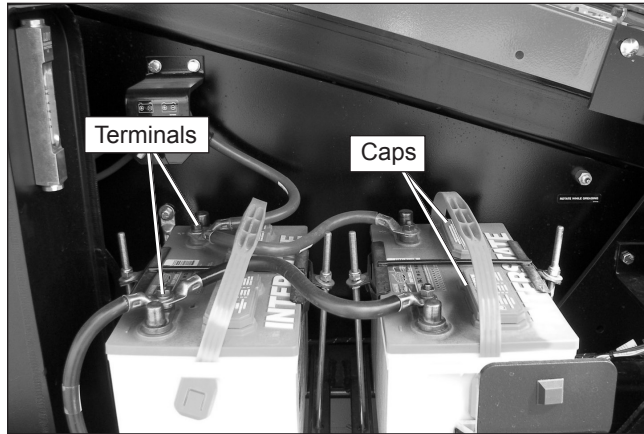

Figure 7.7 – Batteries
Electrical power is supplied from either one or two, 550 CCA, 12 volt batteries (refer to figure 7.7). These batteries supply 12 volt DC electrical power to operate the aerial platform electrical and electrohydraulic components, including the emergency power system.
1. Remove the caps from the battery (refer to Figure 7.7).
1. Check the top of the battery, the terminals, and cable ends (refer to Figure 7.7). They should be clean and free of corrosion.